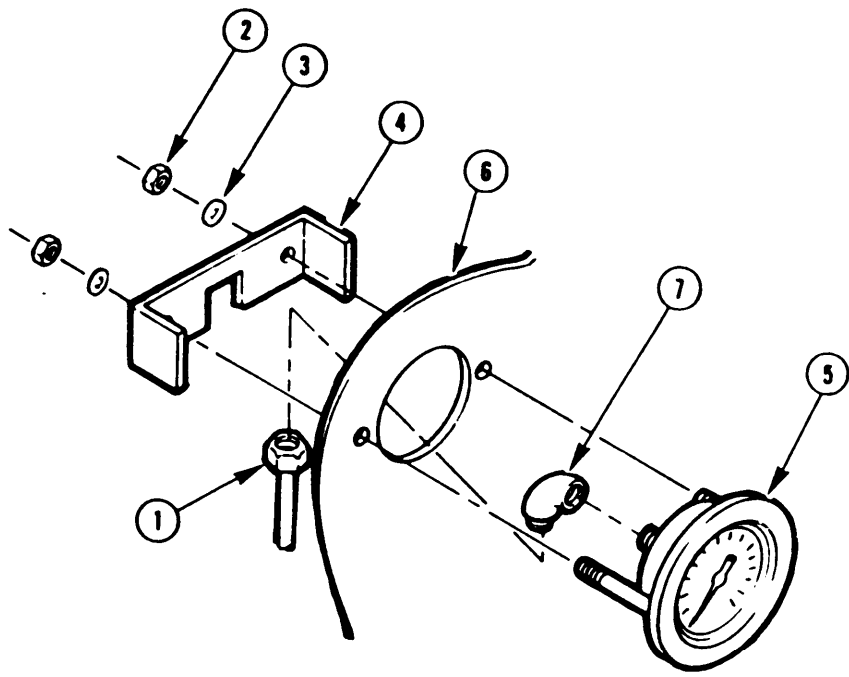

Figure 2-76. Gage psig (Typical)
b. Removal. (Figure 2-76)
- (1) Replace damaged tube assembly or pipe fitting.
- (2) Replace damaged U-bracket (4).
- (3) Replace damaged or unserviceable pressure gage (5).
- (4) Send damaged pressure gage to Direct Support Maintenance.
- (5) Replace damaged nuts, bolts, screws, and washers.
f. Installation. (Figure 2-76)
- (1) Install elbow (7) in gage (5).
- (2) Insert gage (5) in mounting hole in panel (6).
- (3) Slip U-bracket (4) over mounting studs of gage (5).
- (4) Install two lockwashers (3) and two nuts (2) on gage mounting studs.
- (5) Connect pressure tube coupling nut (1) to elbow (7).
- (6) Test pressure tube fitting for leaks.